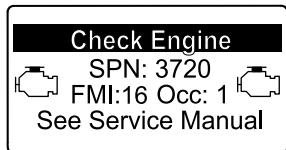

Figure 70
- Engine warning SPN 3720, FMI 16 (Figure 70)